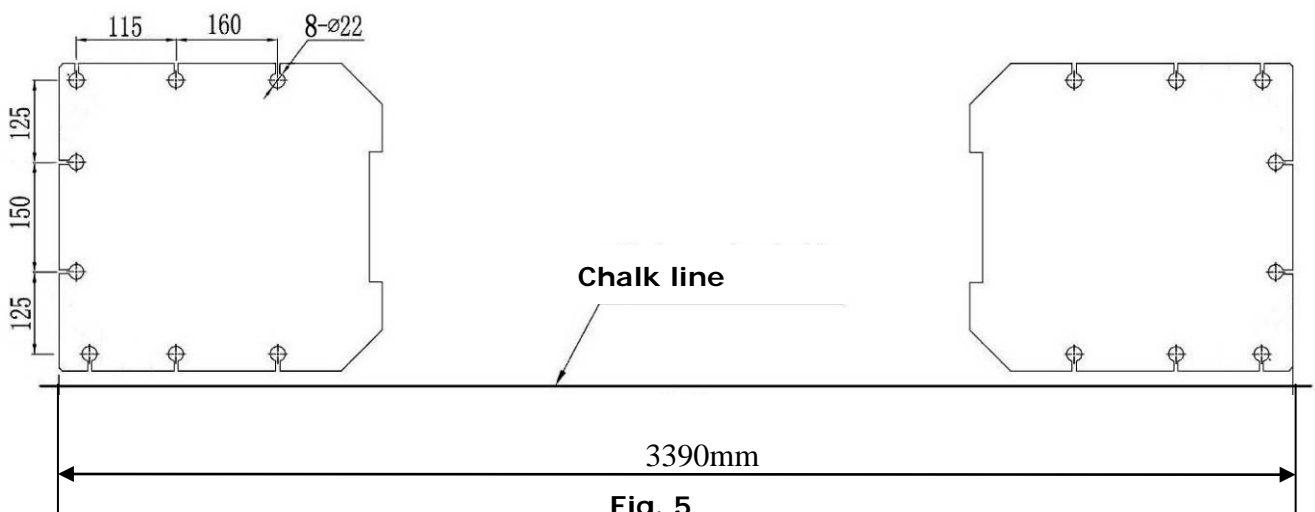

Fig. 5
- B. Use a carpenter's chalk line to establish installation layout of baseplate (See Fig. 5).